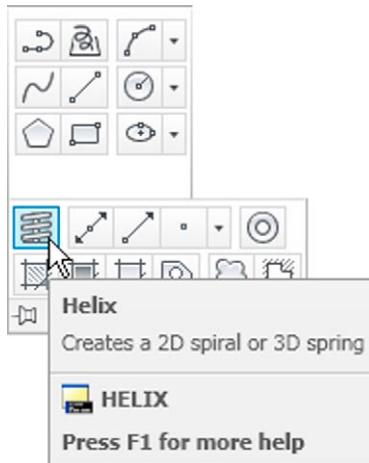

Fig. 14.29 The Helix tool in the Home/Draw panel
1. *Click* the **Helix** tool icon in the **Home/Draw** panel (Fig. 14.29). The first of the **DYN** prompts appears. *Enter* the following at the command line using the down key of the keyboard when necessary.